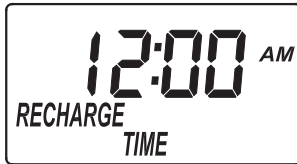

FIG. 17
1. If you completed the previous step, the words "RECHARGE TIME" should show in the display (See Figure 17). Otherwise, press the SELECT button several times until they do.